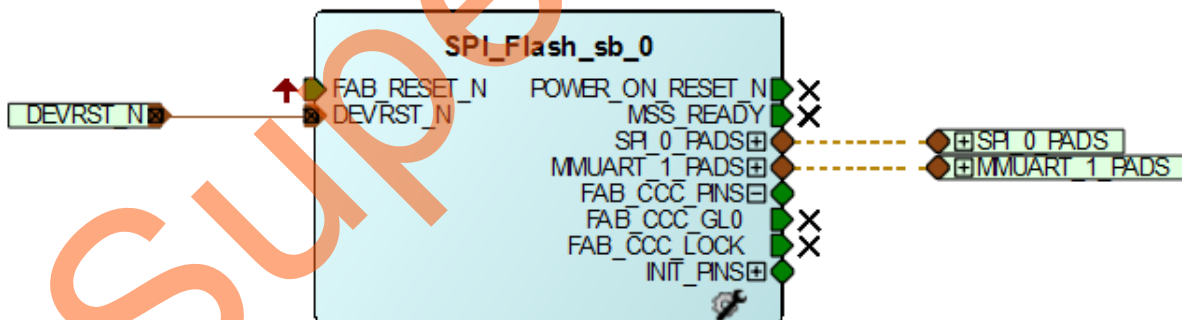

Figure 11 • SPI_Flash Design
2. Click **File > Save**. The SPI_Flash design is displayed as shown in Figure 11.